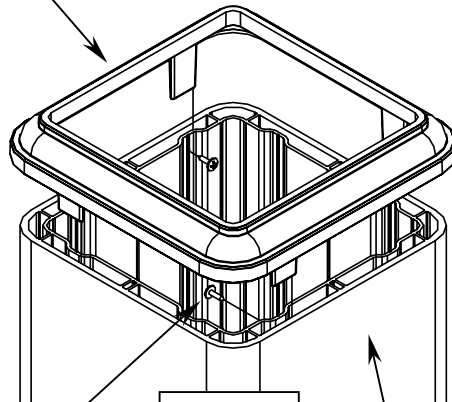

Fig. 1
- a) Assemble trim collar to sleeve with 1/2" screws through 2 tabs on skirt and into sleeve. (Fig. 1)